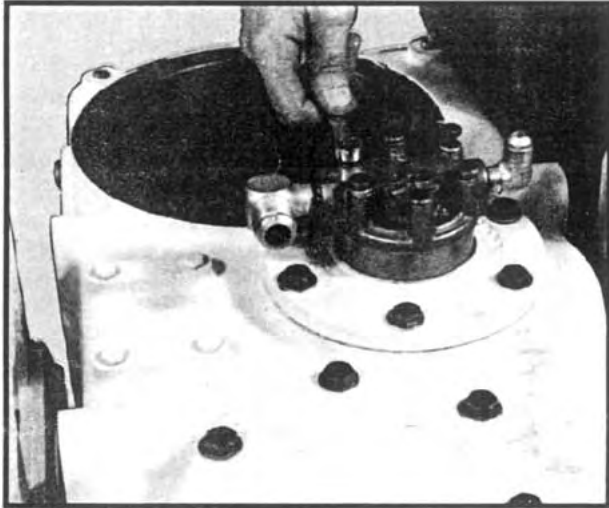

Fig 12
2. Remove the (6) cap screws and washers securing the oil pump cap. See Figure 12. Lift off the cap, shims, oil pump ring, and gasket. Discard the gasket.